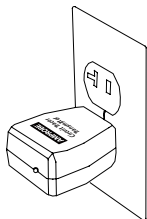

Figure 1
1. Plug the Transmitter into an energized wall outlet (Figure 1).